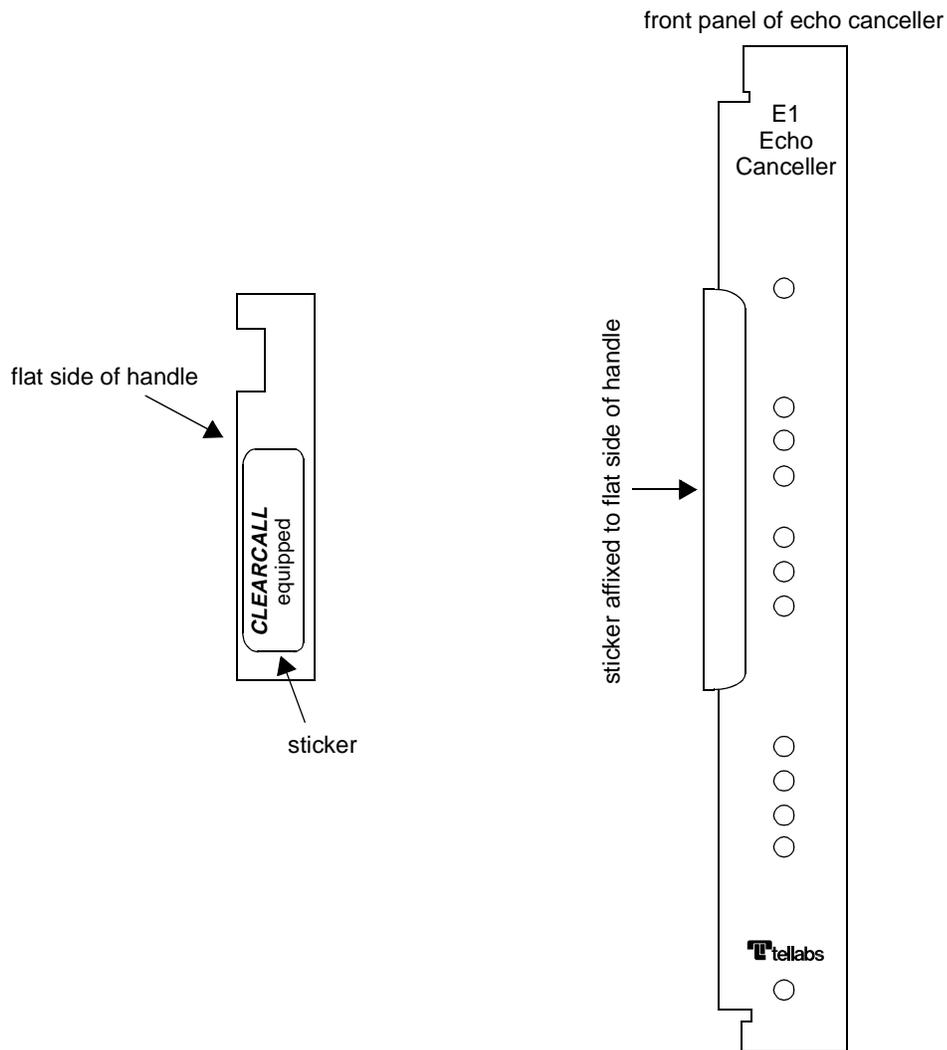

Figure 5-1 CLEARCALL sticker placement on front panel handle of echo canceller
- 5.4 Figure 5-1 illustrates the location of the sticker on the handle of the echo canceller's front panel.